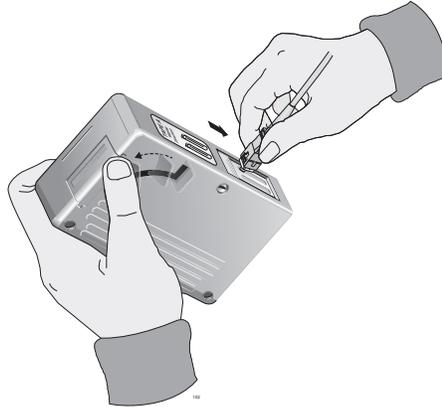

Figure 30. Rubbing the Ferrule Tip on the Cleaning Surface
1. With one hand, hold the cartridge cleaner and push the lever on the cleaning cartridge in the direction of the arrow to expose the cleaning surface, as shown in Figure 30 on page 61.
2. Place the ferrule tip on the exposed cleaning surface and rub the ferrule in a downward direction, as shown in Figure 30 on page 61.